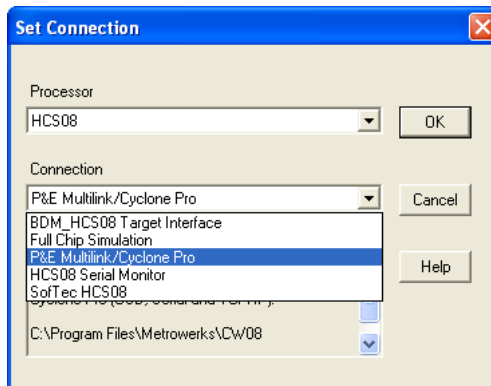

Figure 8-27: HCS08 P&E Multilink/Cyclone Pro Connection Setting
1. Choose the P&E Multilink/Cyclone Pro option from the set connection dialog: See **Figure 8-27**.